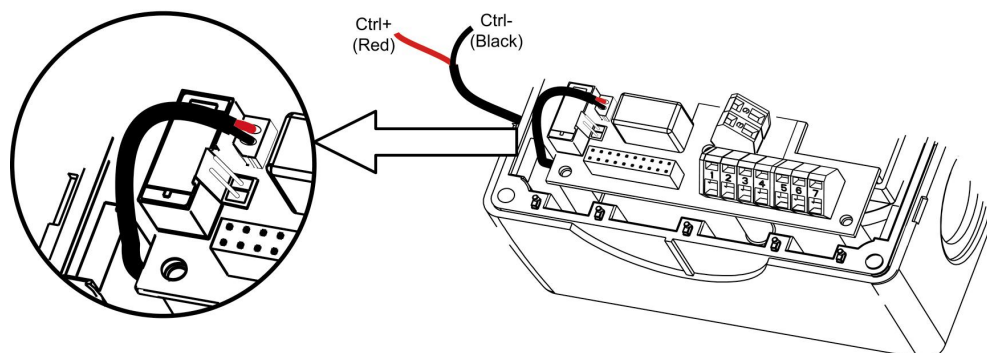

Figure 2-7 Fitting the Control Cable
6. Feed the supplied control cable between the EM Brake Module and the corresponding control plug on the inverter I/O board (see Figure 2-7).